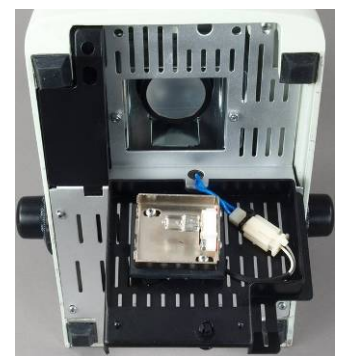

Fig. 6
**2.9 Installing (or changing) the halogen bulb (Fig.6)**